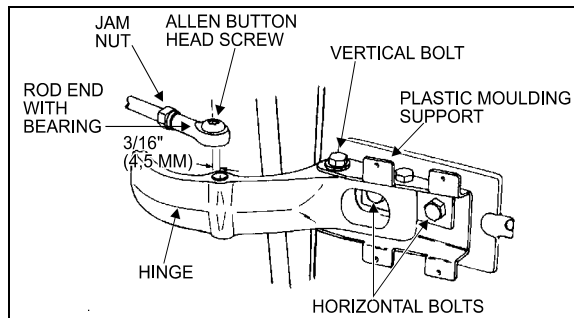

FIGURE 16: UPPER DOOR HINGE (COACH)
2. Remove the Allen button head screw and the washer retaining the rod end with bearing to the upper hinge. See figure 16.
3. Remove the Allen button head screw and the washer retaining the ball and socket rod to the upper hinge. See figure 16.
3. Remove the Allen button head screw and the washer retaining the rod end with bearing to upper hinge. See figure 16.